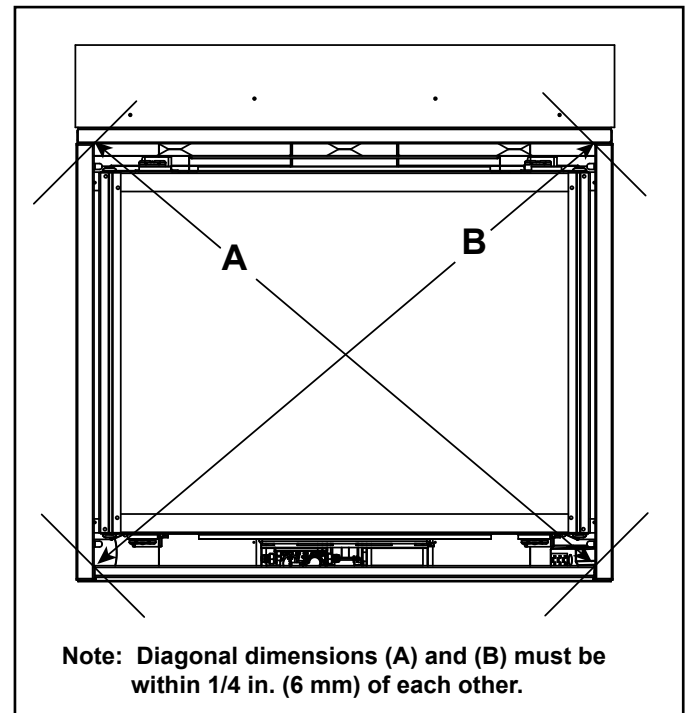

Figure 6.14 Positioning the Appliance Squarely
- "Square" the unit by securing diagonal dimensions to within 1/4 in. (6 mm) of each other. See Figure 6.14.